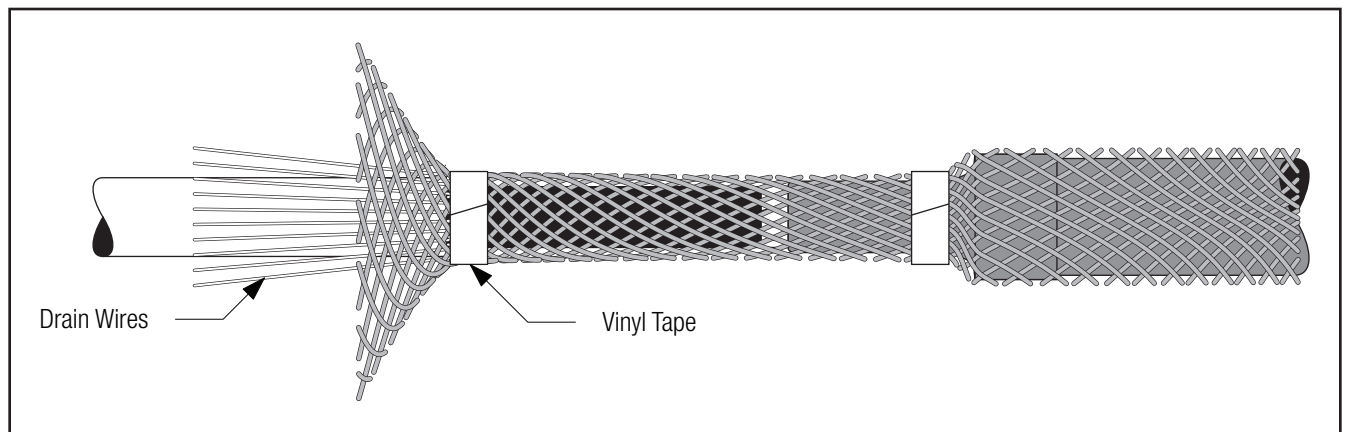

Figure 25
6.3.1 Carefully remove vinyl tape from drain wires. Secure sleeve to cable semi-conducting layer next to each cable jacket using two wraps of vinyl tape (*Figure 25*).